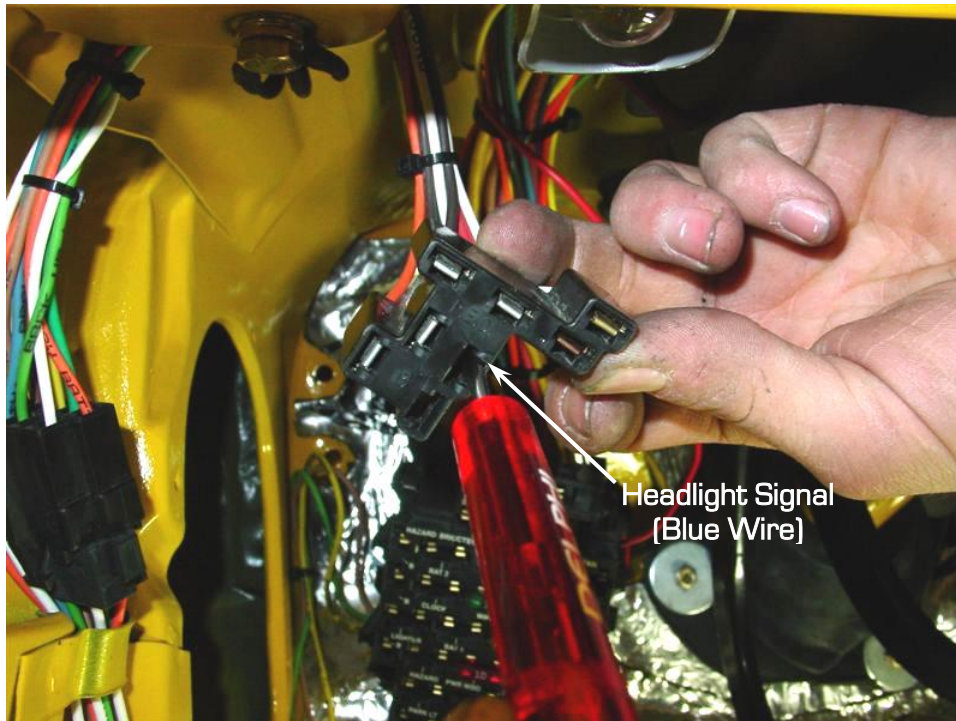

Figure 6 – Locating the Blue Wire
3. Remove the connector from the headlight switch. Locate and mark the blue wire and remove the terminal from the connector housing using a terminal removal tool or a small flat blade screwdriver. The blue wire is the 12 volt headlamp feed. See Figure 6 on the next page.